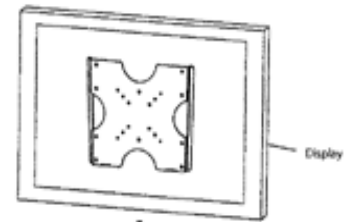

Figure 3A
1. Carefully slide the mount with your LCD attached into the wall bracket (Fig. 3A).